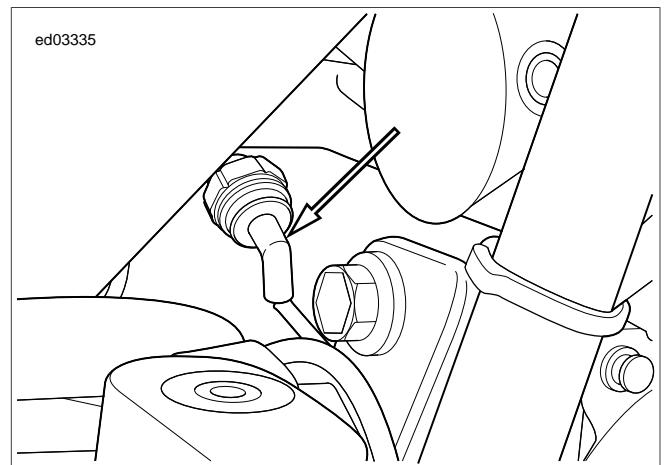

Figure 4-10. Oil Pressure Switch [120]
See Figure 4-10. The neutral indicator is controlled through the (W) wire connected to the speedometer. When the transmission is in neutral, the neutral switch closes and supplies a ground to the BCM on terminal D3. The BCM then sends a message to the speedometer over the CAN bus indicating the transmission is in neutral. The speedometer supplies ground to the neutral indicator causing it to illuminate.
See Figure 4-10. The oil pressure indicator is connected to the speedometer. The switch closes when oil pressure is low and supplies ground to the BCM at terminal E3. The BCM then sends a message to the speedometer over the CAN bus indicating the oil pressure is low. The speedometer supplies ground to the oil pressure indicator. This ground causes the indicator to illuminate with the IGN ON and the engine OFF.